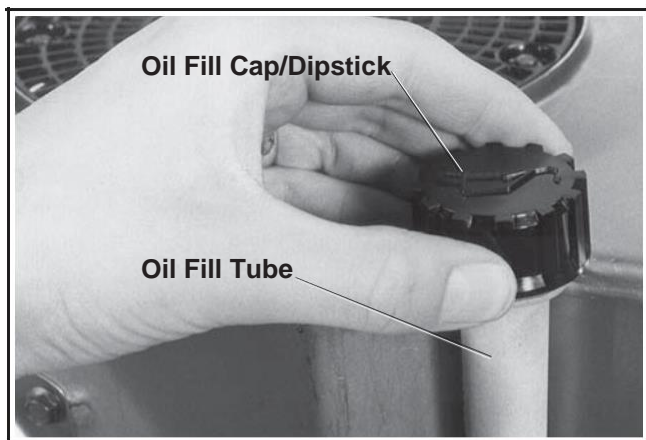

Figure 6-3. Checking Oil Level.
3. Unthread and remove the oil fill cap/dipstick; wipe oil off. Reinsert the dipstick into the tube and rest the oil fill cap on the tube. Do not thread the cap onto the tube. See Figure 6-3.